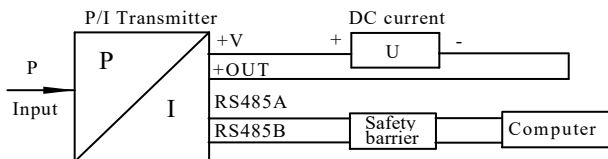

Fig. 8
b) The electric connection method of transmitter only with RS485 communication to see Figure 8: